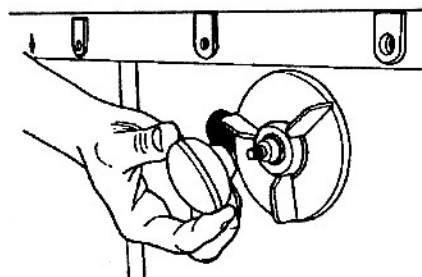

Fig. 25
37. Screw the pull knob (41) on the carriage rod (36), as seen in Fig. 25.